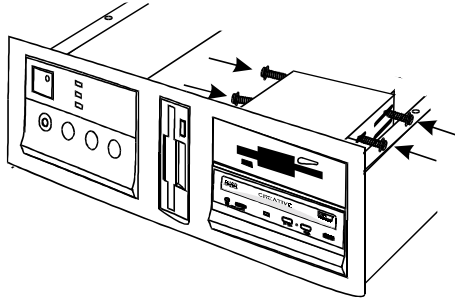

Figure 2-12: Fastening the drives to your system.
3. Slide the drives back into place and fasten them to your system as shown in Figure 2-12.